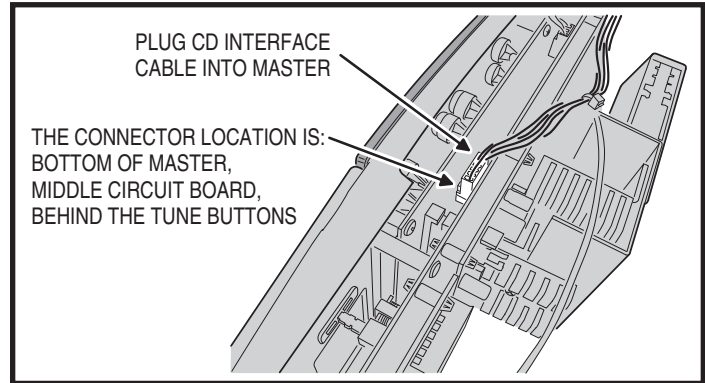

Figure 22. CD/MP3 Player Interface Connection on Master
2. Insert one end of the CD/MP3 Player interface cable into the CD interface connector on the DMC1 Master Station. This connector is located in the center of the DMC1 Master Station's middle circuit board approximately behind the two TUNE buttons (see Figure 22).